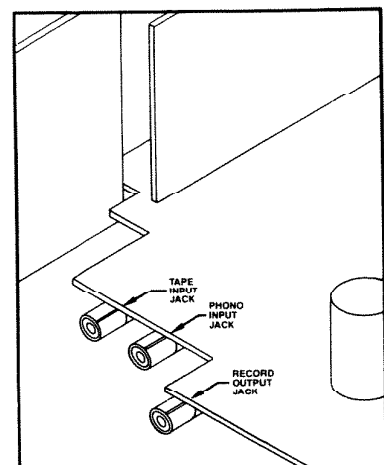

FIGURE 17
1. To connect an optional NuTone Record Changer or Stereo Cassette Player/Recorder, locate the **PHONO INPUT**, **TAPE INPUT**, and **RECORD OUTPUT** jacks on the master panel. See Figure 17.
2. To play the phonograph over the intercom system, insert the accessory's output plug into the master panel's **PHONO INPUT** jack. See Figure 17.
3. To play the cassette player over the intercom system, insert the accessory's output plug into the master panel's **TAPE INPUT** jack. See Figure 17.
4. To use the radio as a program source for recording on the cassette player, insert the tape player's input plug into the master panel's **RECORD OUTPUT** jack. See Figure 17.